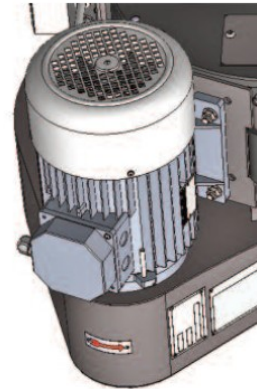

Figure 4.2: Rotation arrow on the motor fan guard
1. Turn the main switch (1) to I.
2. Check the motor turns in the direction of the arrow on the motor fan guard (Figure 4.2). If it does not, switch off and have two of the three phase wires in the supply cable swapped.